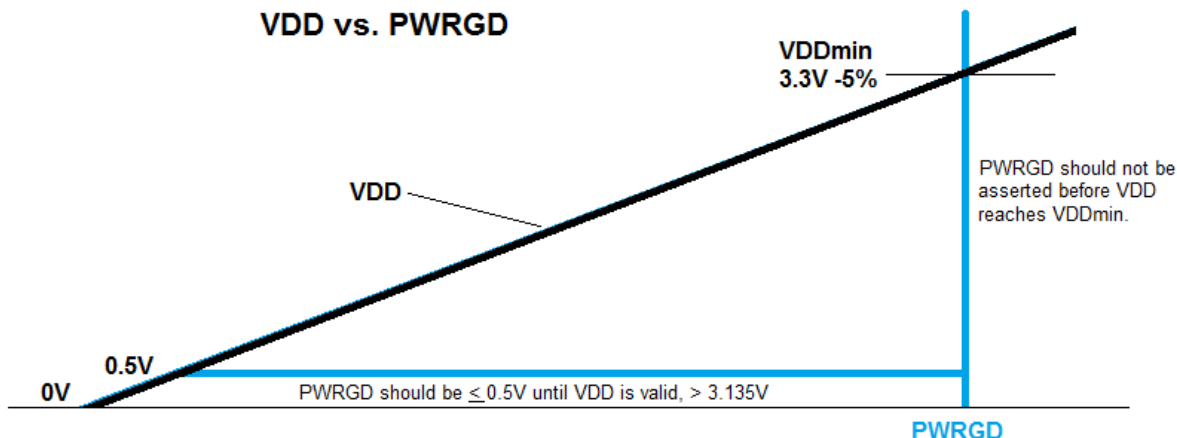

Figure 9. PWRGD and VDD Relationship Diagram
4. Once the VDD pin has reached a valid VDDmin level (3.3V -5%), the PWRGD/PWRDN# pin must be asserted High. See Figure 9.